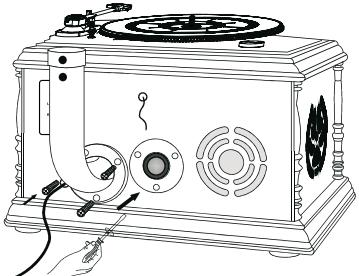

Fig. 5.
4. Look at **Fig5**. Put the RTCC411RIP host cabinet flat on the table. Line the holes on the bottom tube (D) up as shown with the holes on the cabinet so that the open end of tubing face upwards. Rotate three screws C (G) clockwise into the holes. Tighten with a Philips head screwdriver.